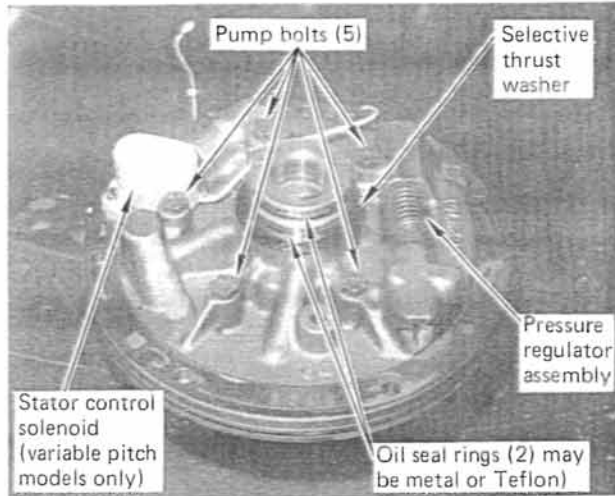
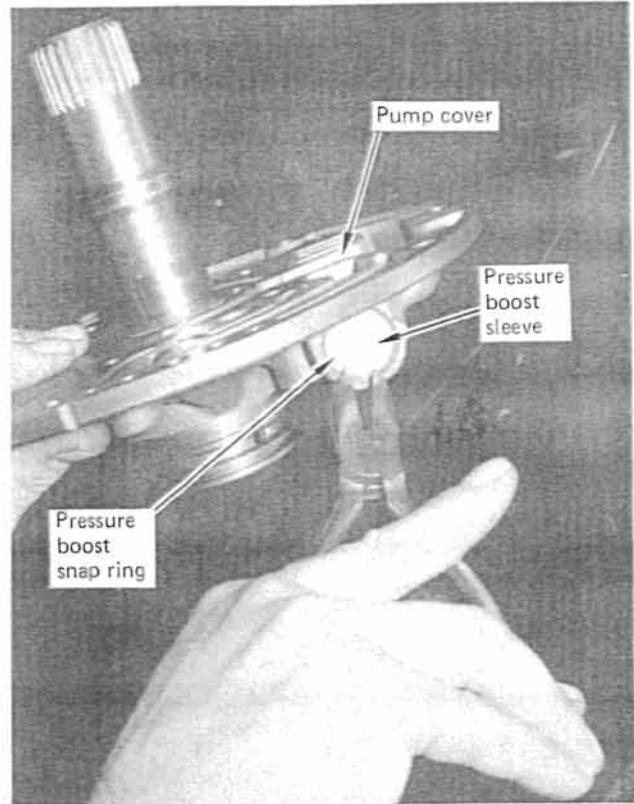
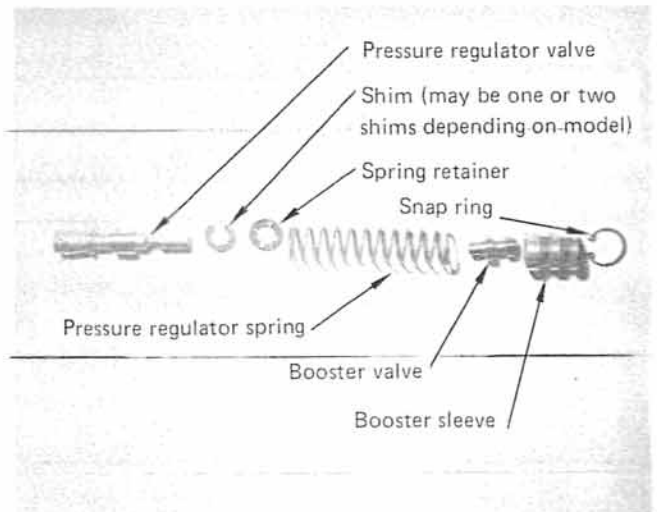

FIGURE 16
FIGURE 18
FIGURE 19
**STEP 1.** Remove stator control solenoid on variable pitch models. (See Fig. 16) Remove and discard gasket.
**STEP 2.** Remove five oil pump bolts. (See Fig. 16) This will separate the pump body (front half) from the pump cover (rear half). Be careful when handling the pump not to damage pump surfaces or seal ring grooves.
**STEP 4.** Remove and discard two metal hook-type or removable teflon seal rings from the back of the cover. (See Fig. 16) Remove the selective plastic thrust washer. Use a pair of snap ring pliers to remove the pressure boost snap ring. (See Fig. 18) Remove pressure boost sleeve and valve, pressure regulator spring and spring retainer, one or two horseshoe-shaped shims, and regulator valve. (See Fig. 19) Hold your hand over the boost sleeve during snap ring removal to prevent parts from flying out and getting lost. Remove the pressure regulator plug and pin from the opposite end of the regulator bore. Keep all the pump parts together. The pump is now
**STEP 4.** Install pressure regulator valve. (See Fig. 19) Install two horseshoe shaped shims (extra shim supplied with kit if your transmission originally equipped with only one shim). Install spring retainer with tabs pointing towards regulator spring.
**STEP 10.** On variable pitch models, install pump gasket in position on the back of the pump. Align all holes properly and install stator control solenoid. (See Fig. 16) Tighten two